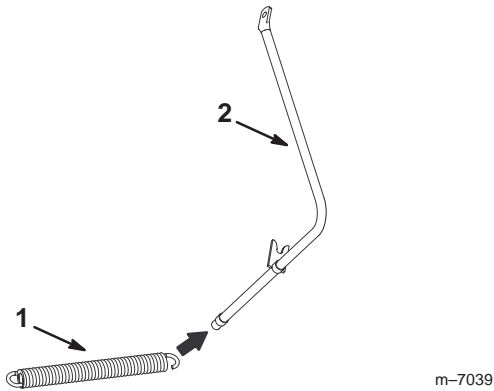

Figure 19
8. Install the closed loop end of the spring onto the chute control rod support (Fig. 19).